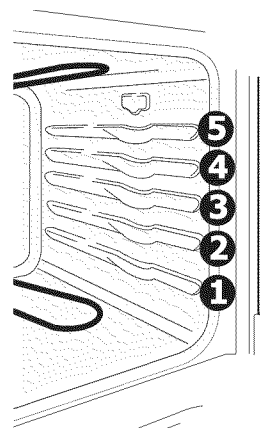

Fig. 3
1. Arrange oven rack while oven is still cool. For rare meats, position the broiler pan closer to the element (upper oven rack positions - Fig. 3). For well-done foods such as chicken, lobster tails or thick cuts of meat, position the pan further from the element (lower oven rack positions).